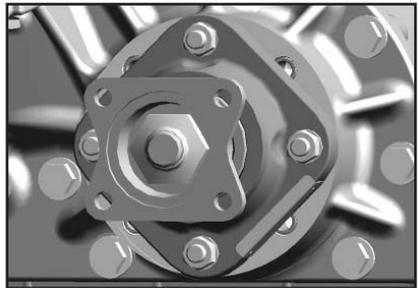

Fig. 5
- d. Mount P.T.O. as shown in **Fig. 5** and install flange nuts.